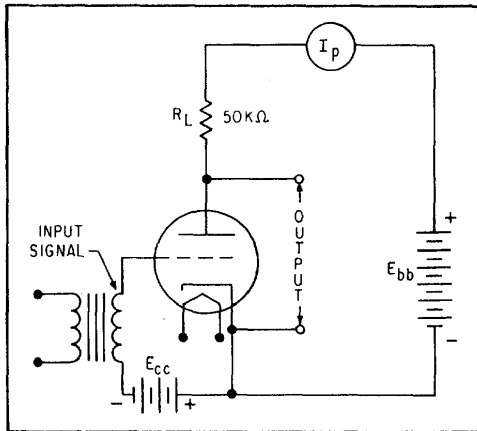

Figure 1B.—Triode operation.
- 1-28. The triode circuit depicted in figure 1B above contains a  $50\text{ k}\Omega$  load resistor. When a 10-volt peak-to-peak ac signal is applied to the grid, current flow in the tube varies between 5 milliamperes and 12 milliamperes. What is the peak-to-peak amplitude of the output?